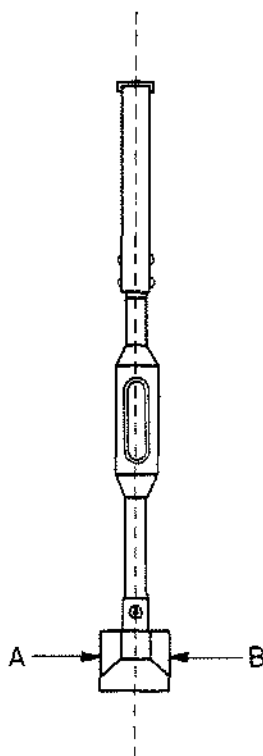
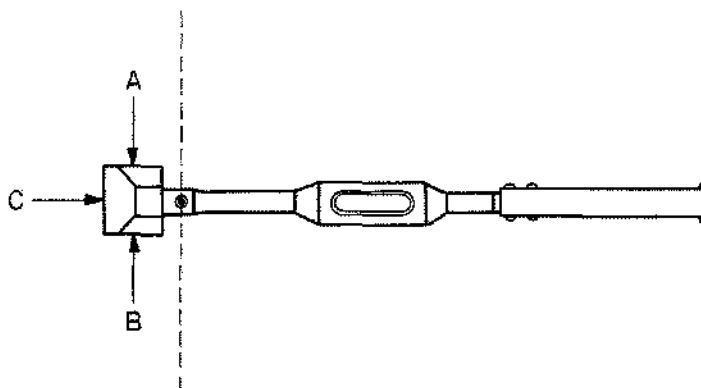

FIGURE 20 BALANCE OF THE POINTER BAR IN POSITION NO. 1, VERTICAL
FIGURE 21 BALANCE OF THE POINTER BAR IN POSITION NO. 2, HORIZONTAL
3. The pointer should be balanced in two positions, position No. 1 as shown in Fig. 20, with the pointer bar uppermost, and position No. 2, as shown in Fig. 21, with the pointer bar horizontal. In Fig. 20 the weight of the entire pointer may be considered to be divided bilaterally as indicated by the dotted line. If the pointer will not remain as shown, with the bar uppermost, the weight is not equally divided, and it will be necessary to add or remove weight from one side or the other of the lead counterweight, at A or B.
When pointer remains vertical it is balanced in position No. 1. To balance the pointer in position No. 2 as shown in Fig. 21, remove or add equal amounts of lead at A and B or at C, the bottom of the counterweight, until the pointer remains horizontal. Recheck in position No. 1 to see that the pointer still remains vertical. If it does not remain vertical, weight has been removed unequally, and this condition must be rectified, starting with the balance in position No. 1 and No. 2 as described. When the pointer will remain in these two positions it will remain in all intermediate positions and may be considered properly balanced.